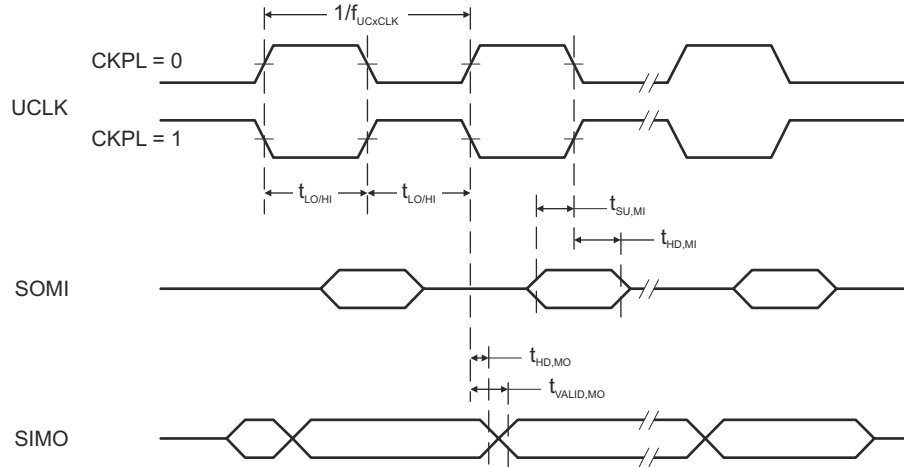
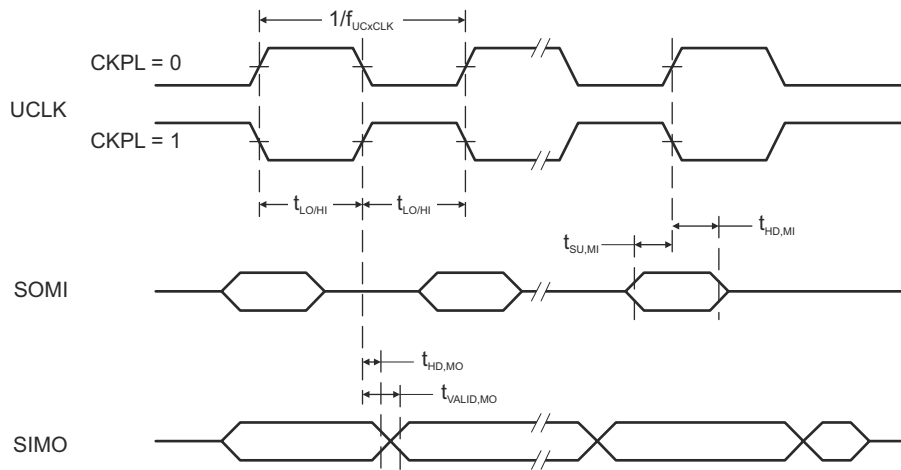

图 8-11. SPI Master Mode, CKPH = 0
图 8-12. SPI Master Mode, CKPH = 1
(see Fig 8-11 and)
- (2) Specifies the time to drive the next valid data to the SIMO output after the output changing UCLK clock edge. See the timing diagrams in Fig 8-11 and Fig 8-12.
- (3) Specifies how long data on the SIMO output is valid after the output changing UCLK clock edge. Negative values indicate that the data on the SIMO output can become invalid before the output changing clock edge observed on UCLK. See the timing diagrams in Fig 8-11 and Fig 8-12.